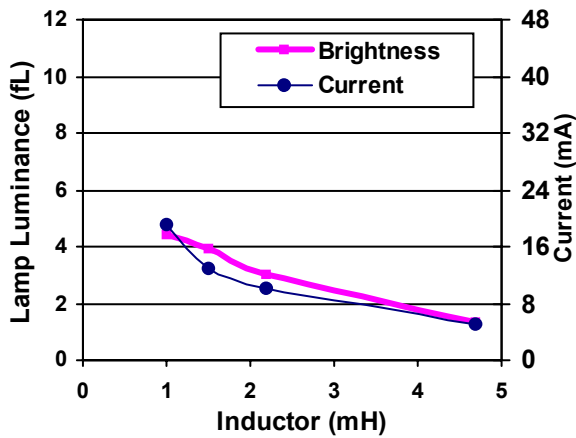

Figure 3: V+ = 1.5V, 1 in² EL Lamp
The external inductor (L) selection for a D355B circuit greatly affects the output capability and current draw of the driver. A careful designer will balance current draw considerations with output performance in the choice of an ideal inductor for a particular application. Figures 3, 4, and 5 show typical brightness and current draw of a D355B circuit with different inductor values, lamp sizes, and supply voltages while keeping the LF constant. Please note that the DC resistance (DCR) of inductors with the same nominal inductance value may vary with manufacturer and inductor type. Thus, inductors made by a different manufacturer may yield different outputs, but the trend of the different curves should be similar. Lamp luminance is also a function of lamp size. In each example, a larger lamp will have less luminance with approximately the same current draw.